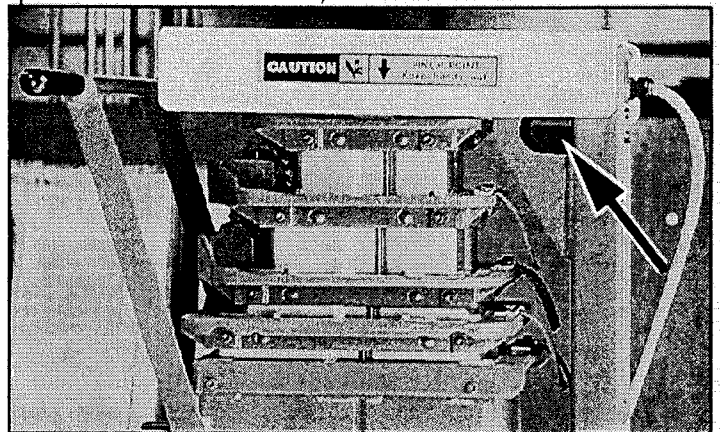

Figure 2-2: Upper Tie Down/Lift Point
6. Attach a lifting strap to the upper tie down/lift point (Figure 2-2) and a suitable lifting device. With the lifting device raise the machine to its verticle position.